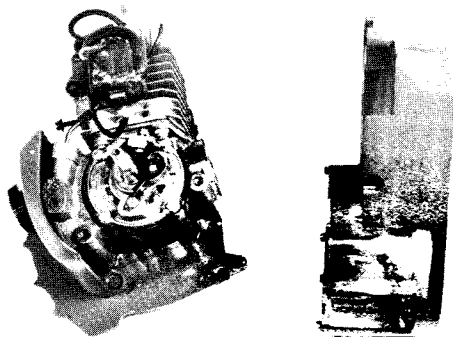

Fig. 16 — Fuel Tank and Cover Removed
11. Remove screws securing fuel tank and cover to crankcase and lift off, Fig. 16.
9. Reinstall fuel tank and cover to crankcase, Fig. 16, and secure with retaining screws.